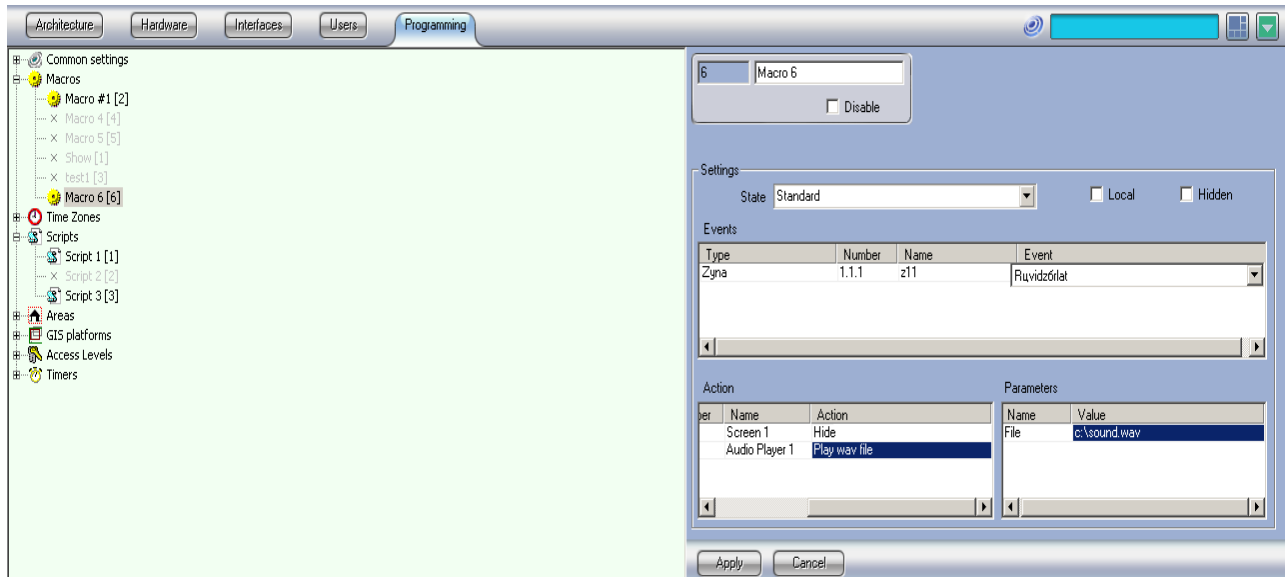

fig. 49
- In the “Action” table set the cause effect that should be triggered in case of the events in the event table. In our example we will program the “Screen” to “Show” and the “Audio player” to play a “.wav” file located in the “c:\” partition (the audio player recognizes only .wav format) (fig. 49);